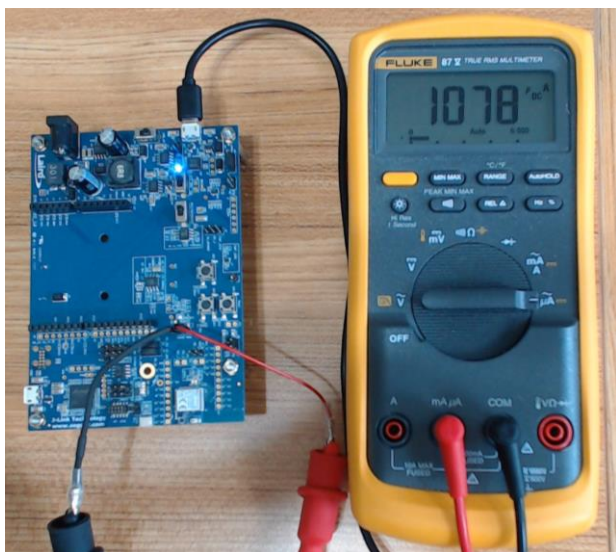
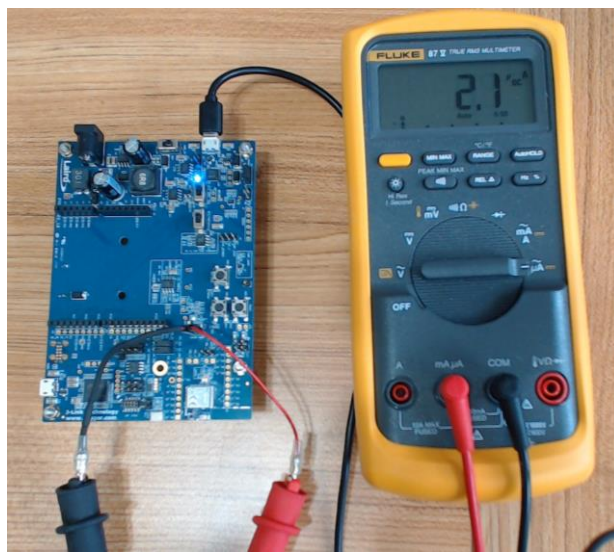

Figure 6: UART open
Figure 7: UART closed
6. The UART closes after four seconds passes with no UART activity. Press Enter to open the UART, as described in the Overview section. The multimeter should show a higher current (Figure 6) when the UART is open and a lower current (Figure 7) when the UART is closed.